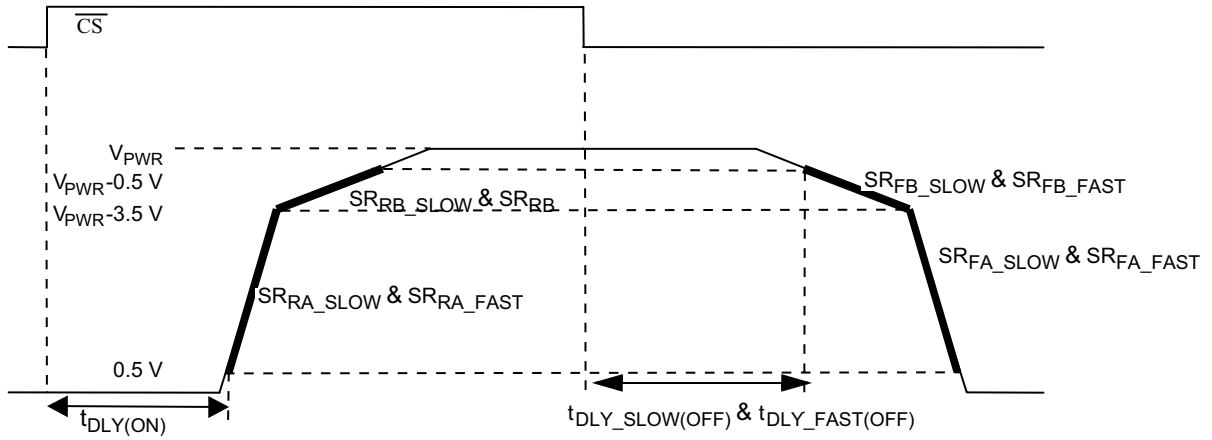

Figure 4. Output Slew Rate and Time Delays
19. Rise and Fall Slew Rates A measured across a 5.0 Ω resistive load at high-side output = 0.5 V to VPWR-3.5 V (see Figure 4, page 12). These parameters are guaranteed by process monitoring.
20. Rise and Fall Slew Rates B measured across a 5.0 Ω resistive load at high-side output = 0.5 V to VPWR-3.5 V (see Figure 4). These parameters are guaranteed by process monitoring.